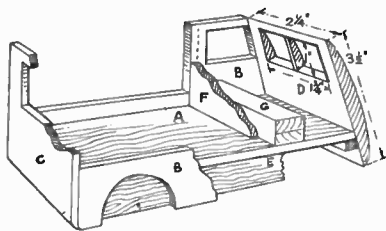

Fig. 2
measuring 7 ins. long, 2½ ins. wide, and ½ in. thick. The front edge of this piece must be planed or rasped to a slight angle to meet the front (D) of the van, and this angle is seen in Fig. 2. To the long edges of the floor the two sides (B) will be attached, and in Fig. 3 is given a diagram with all measurements clearly indicated for enlarging to full size on paper or direct on to the ½ in. wood. Note from this figure that the floor
The main front of the van (D) needs some little care in shaping and fixing. Its overall size and the size of the open panels facing the driver's seat are given in Fig. 2, and it can be gathered from this diagram how the piece fits the edge of the roof and the floor below where it is glued, a stiffening fillet of wood being glued along inside as shown. The main van itself is now almost finished, but it will be found at this juncture that the whole can be strengthened in places liable to strain or fracture by the addition of angular or square fillets of wood, say,  $\frac{1}{2}$  in. or so square.